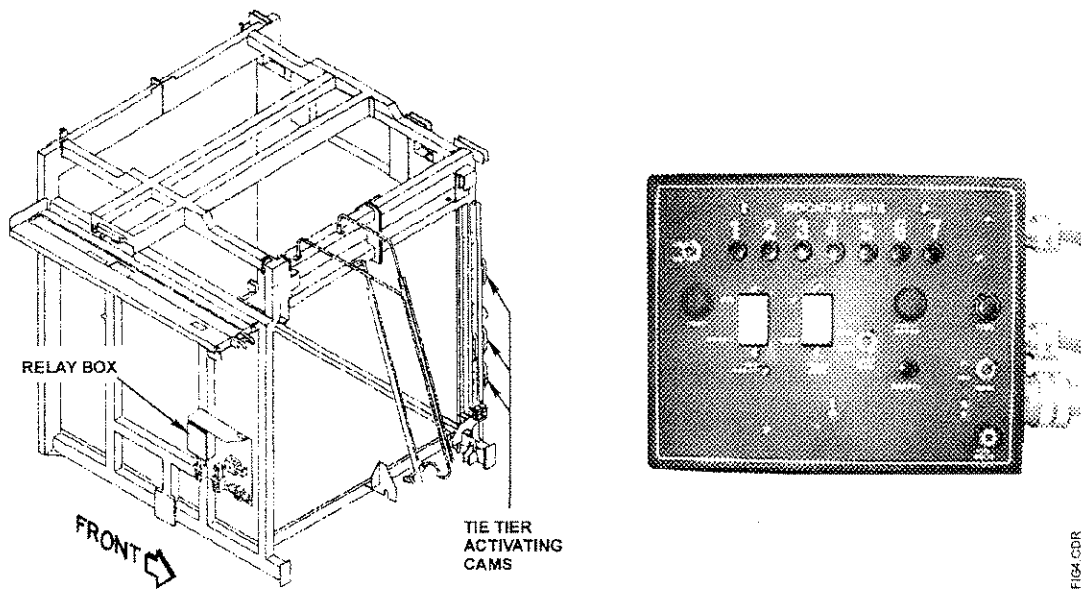

Fig.4
- I. When the tie sequence is activated, indicator light No. 1 illuminates (see Fig.4).